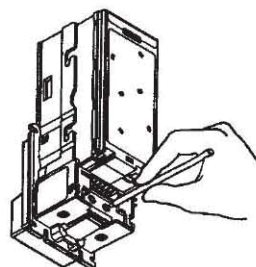

Figure 6.
3. **Locate the service button** on the back of the unit (refer to Figure 6). Depress the button once to enter coupon set-up mode. Depressing again will exit the mode.